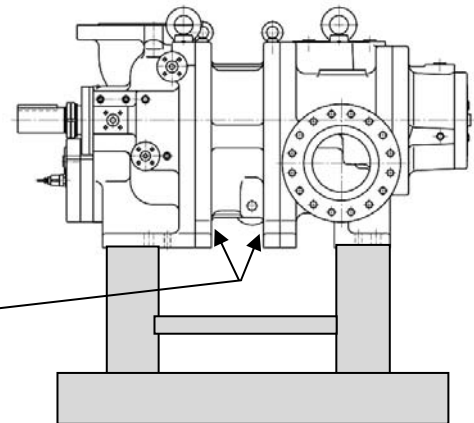

Figure 5-1 Exclusive Frame for placing the Compressor
- Before starting compressor disassembly work, put the compressor on an exclusive frame as shown in Figure 5-1, and remove approximately 6 nuts for stud bolts, which are needed, from the lower side of the flange.